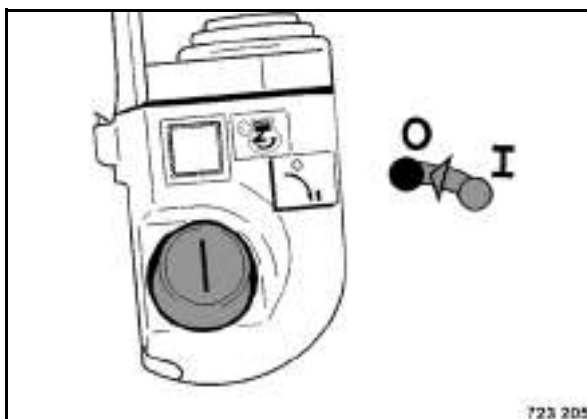

Fig. 57
- Turn the ignition switch (Fig. 57) to position "0".